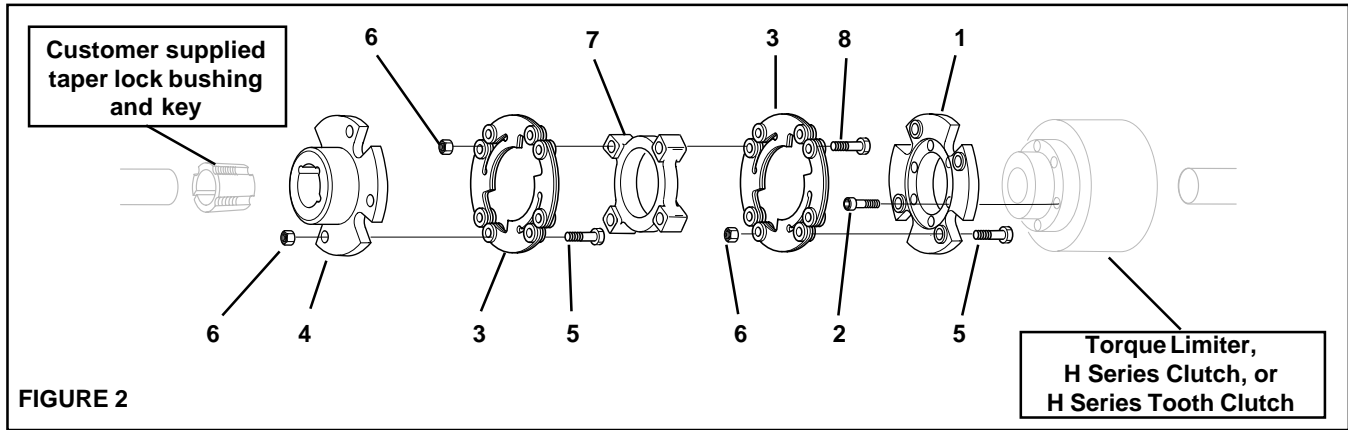

FIGURE 2
1. Insert the taper lock bushing into the Coupling Hub (Item 4) (See Figure 2).
2. Slide the Coupling Hub (Item 4) with the customer supplied taper lock bushing and key onto one shaft, then install the set screws provided with the taper lock bushing (See Figure 2).
3. Using the Socket Head Cap Screws (Item 2), attach the Coupling Adapter (Item 1) to the Clutch or Torque Limiter (See Figure 2).
5. Slide the Coupling Adapter with the Clutch or Torque Limiter onto the other shaft (See Figure 2).
9. Using Hex. Head Cap Screws (Item 8) and Hex. Nuts (Item 6), secure the Disc Packs (Item 3) to the Flange (Item 7) (See Figure 2).
10. Using Hex. Head Cap Screws (Item 5) and Hex. Nuts (Item 6), secure the Disc Pack and Flange Assembly to the Coupling Adapter (Item 1) and Coupling Hub (Item 4) (See Figure 2).
12. Insert the Disc Pack and Flange Assembly between the Coupling Adapter (Item 1) and the Coupling Hub (Item 4) (See Figure 2).